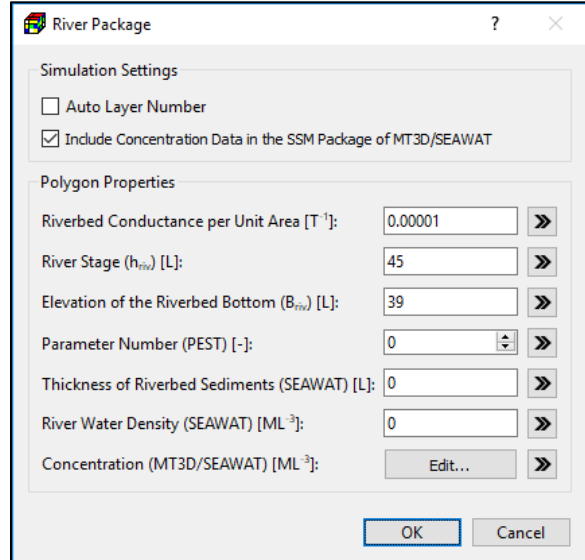

Figure 76. The River Package dialog box for specifying polygon properties
4. **Polygon input method:** Figure 76 shows a dialog box for specify the following data to a polygon. These data may be applied to model cells following the rules described in Section 3.4.2.3 and additional rules below.